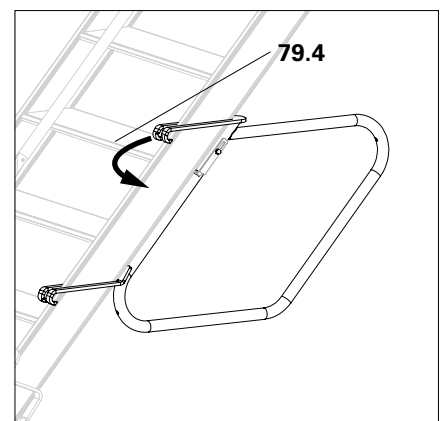

Fig. A8.11b
2. Lower the stair guardrail to the step and pull the mounting rings all the way to the front edge of the step (**79.4**). (Fig. A8.11b)